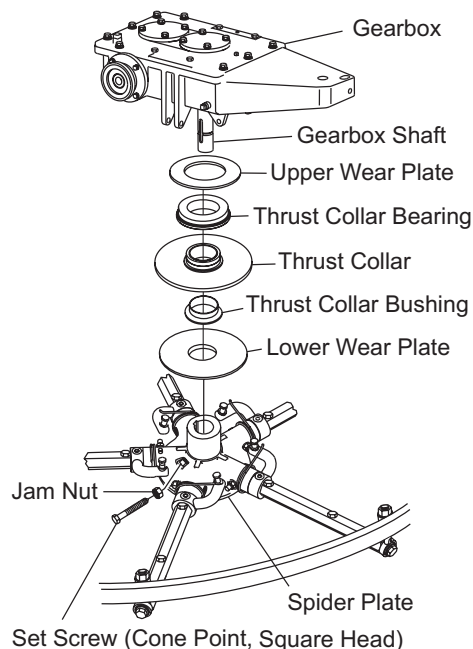

Figure 44. Spider/Gearbox Removal
1. Locate the cone point square head set screw and attached jam nut found on the side of the spider assembly (Figure 44).